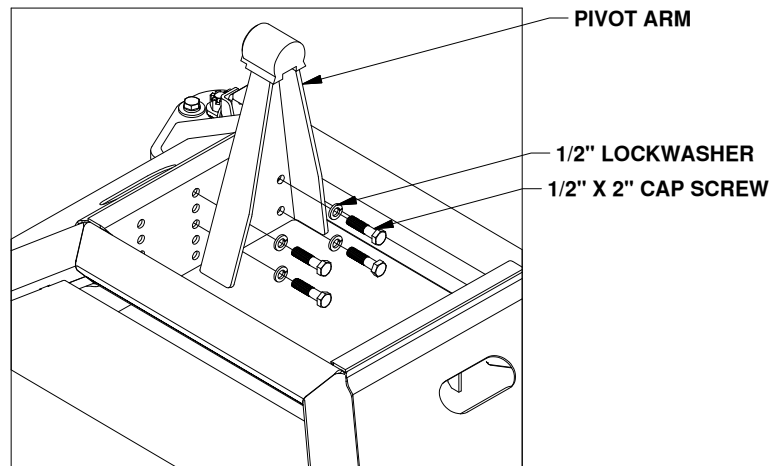
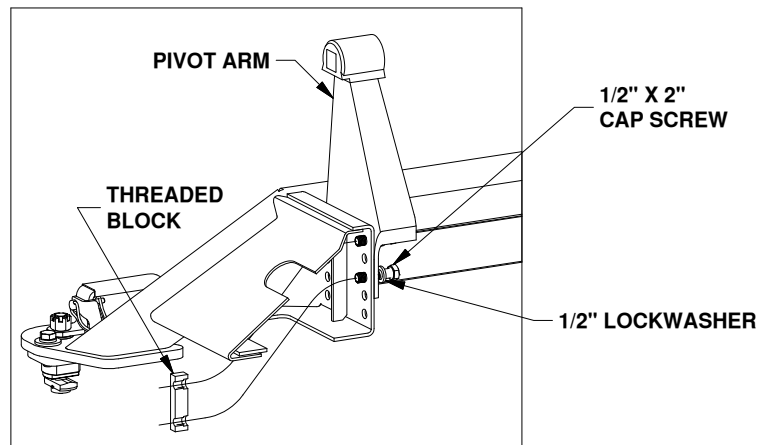

FIGURE A2: Passenger pivot arm mounting location.
FIGURE A3: Cutaway view of passenger side bolt plate.
2. Locate both pivot arms, the four 3/4" threaded blocks, eight 1/2" cap screws, and eight 1/2" split lock washers. Place the lock washers over the cap screws. Align the flat side of the pivot arm flat against the bolt plate and install four 1/2" cap screws through the holes on the arm, holding the arm in place, as shown in figure A2. Locate the threaded blocks. Note that the sides of the block have threaded holes on one side and smooth bored holes on the other side. When installing the threaded blocks it is critical that the side with the smooth holes is flat against the bolt plate when installed. Pass the threaded block under the bases side and align the block with each set of screws and start each screw, as shown in figure A3. After all the screws are started through the arms, torque each bolt to 80 ft-lbs.